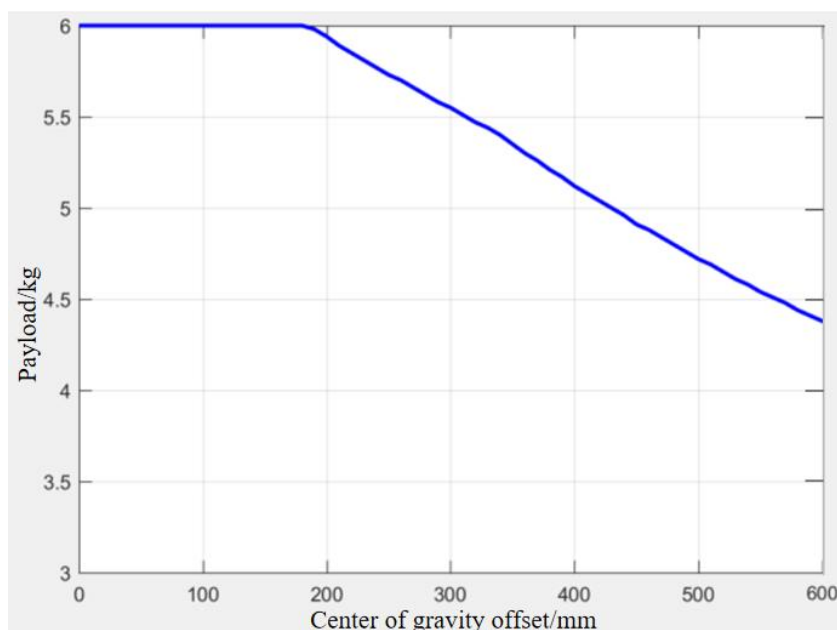

Figure B-4 G6L Payload and Center of Gravity Offset Curves
- The relationship curve between the payload of the G6L collaborative robot and the payload center of gravity offset is shown in Figure B-4.